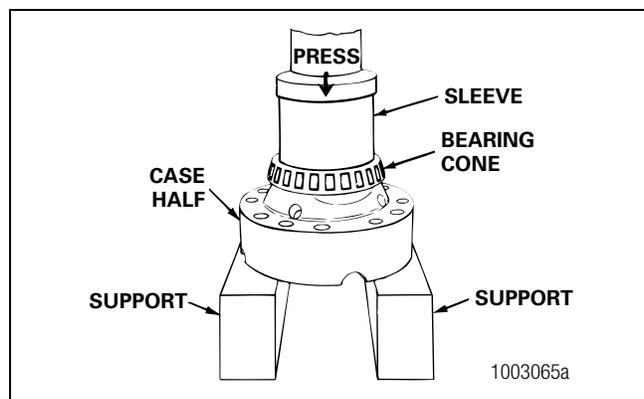

Figure 5.15
- Install the bearing cones on both of the case halves. Use a press and sleeve of the correct size. Figure 5.15.